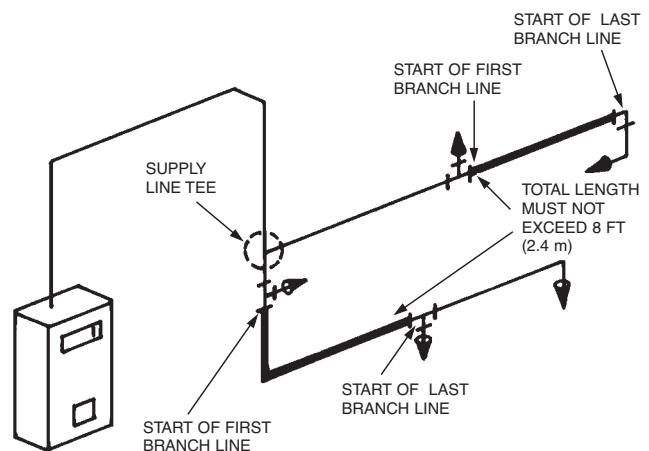

FIGURE 111
1. This option allows for duct protection, plenum protection, appliance protection, or any combination. However, only one (1) duct nozzle may be used, either a 1W or a 2W, nozzle.
4. The pipe length between the start of the first branch line and the start of the last branch line must not exceed 8 ft (2.4 m). When the supply line is split, the **combined length** of both legs of the supply line (start of first branch line to start of last branch line) must not exceed 8 ft (2.4 m). See Figure 111.